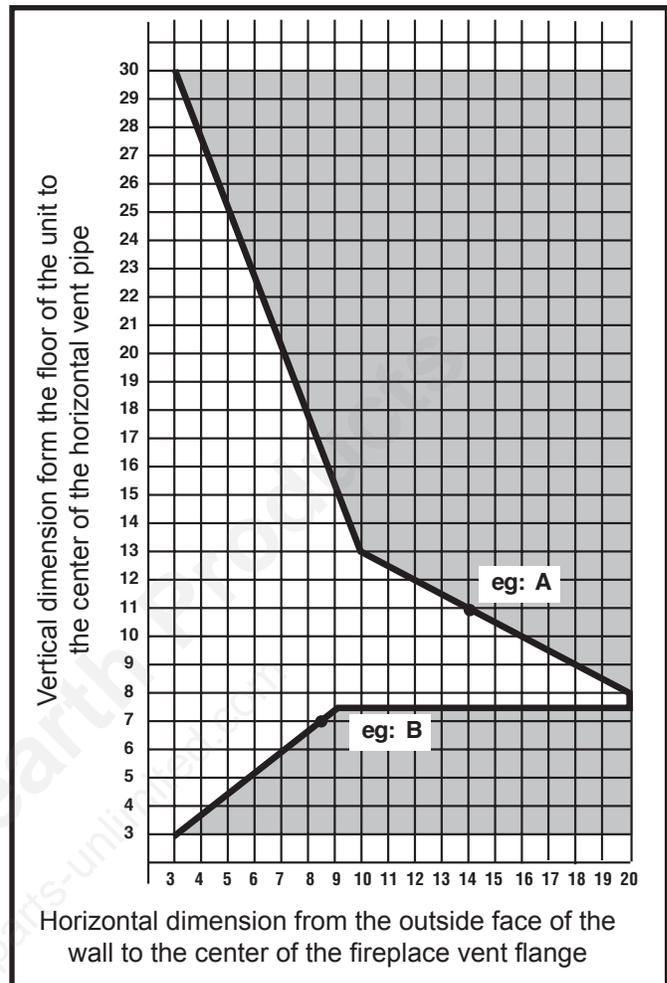

Fig. 19 Sidewall venting graph. (Dimensions in feet)
1. Determine the height of the center of the horizontal vent pipe exiting through the outer wall. Using this dimension on the Sidewall Vent Graph (Fig. 19), locate the point intersecting with the slanted graph line.